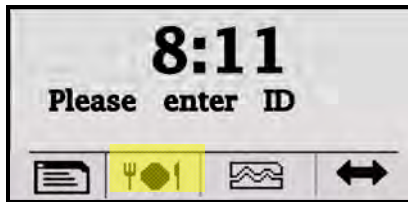

Figure 29: Enter ID for Meal Break
- Step 1.** From the normal main display (see **Figure 28**) press the  function button to enter an employee ID for a meal punch (see **Figure 29**).